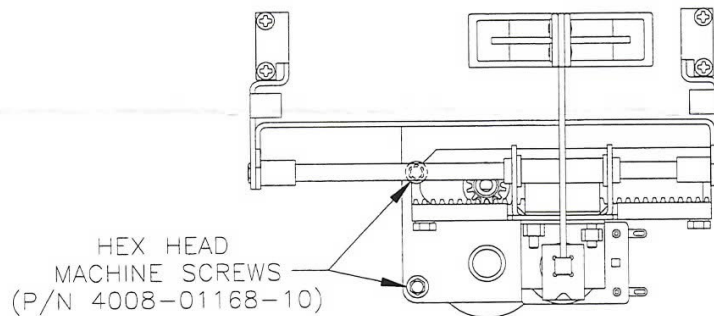

FIGURE 4
4. Slide COIL/SLIDE ASSEMBLY all the way to the right hand side of the MINI PLAYFIELD ASSEMBLY. Also do this manually. You will see two(2) more HEX HEAD MACHINE SCREWS (P/N 4008-01168-10). Remove these two screws also, being careful as not to let the PINION/MOTOR ASSEMBLY (P/N A-19950) fall. Desolder the two motor wire leads. (See Fig. 4)